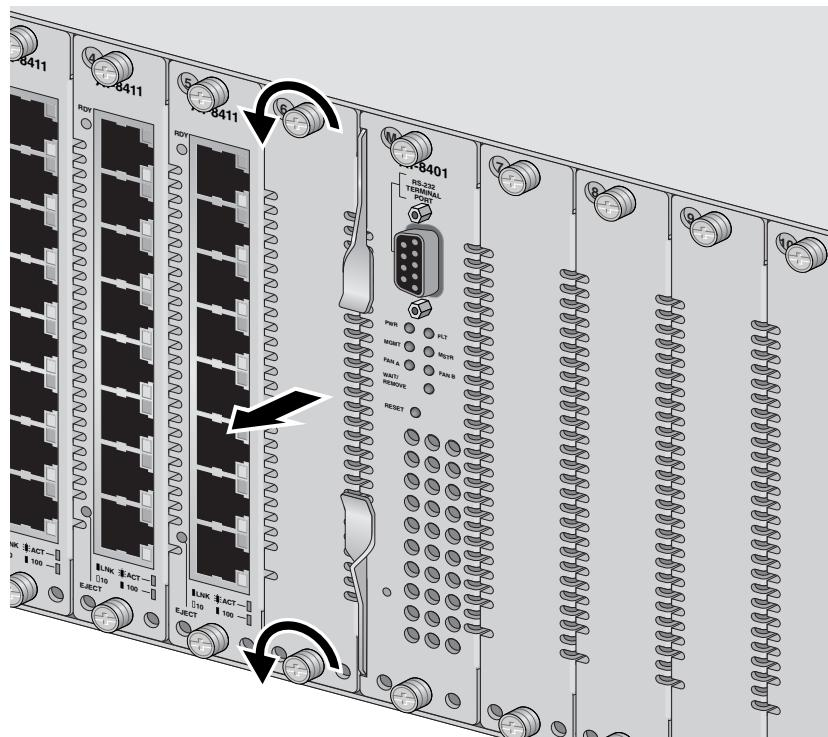

Figure 31 Removing a Blank Faceplate from the AT-8400 Chassis
2. Using a Phillips screwdriver, loosen the two installation screws on the faceplate. See Figure 31.